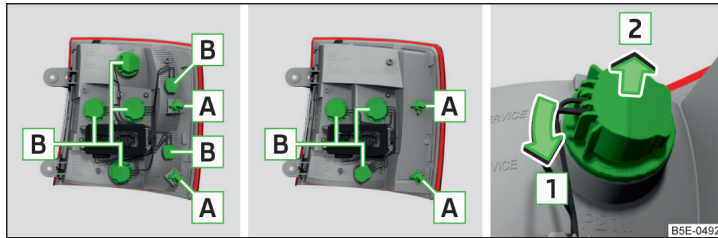

Fig. 234 Outer part of the light: Basic light/light with LED diodes
- › Turn the socket with the bulb **B** in the direction of **1** » Fig. 234.